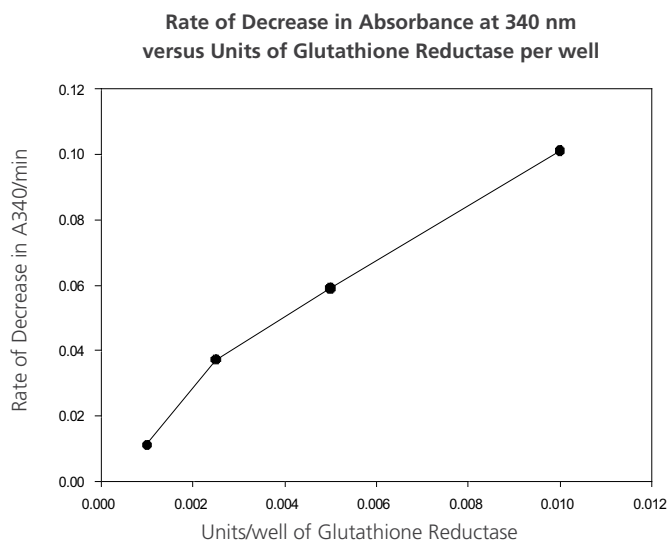

Figure 3: Graph of the rate of decrease in absorbance at 340 nm versus the units of GR in each well.
3. Plot the number of units of GR/well versus these new ΔA_{340} nm/min values (Figure 3):
6. Determine the number of units/well of GR in your samples from the linear portion of the GR standard curve of Figure 3.